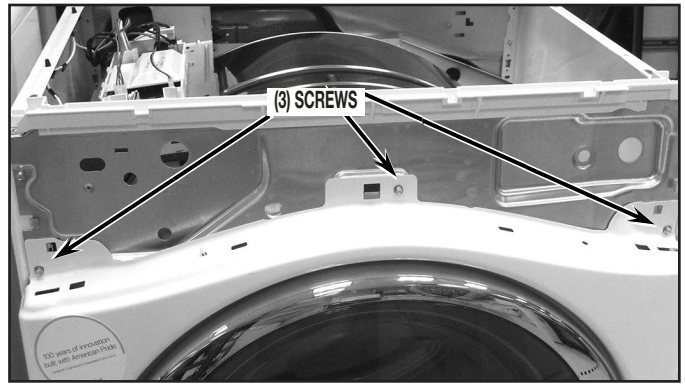

FIGURE 8
8. Next remove the three (3) screws from the top of the front panel as shown in *Figure 8*.